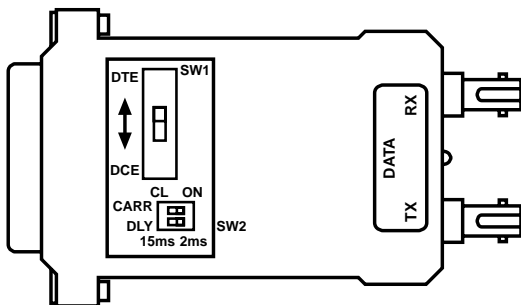

Figure 3-1. Strapping diagram.
2. Strap the modem according to the strapping diagram (**Figure 3-1**) and the strap selection table (**Table 3-1**). Explanations of the switches are also given on the printed circuit board.